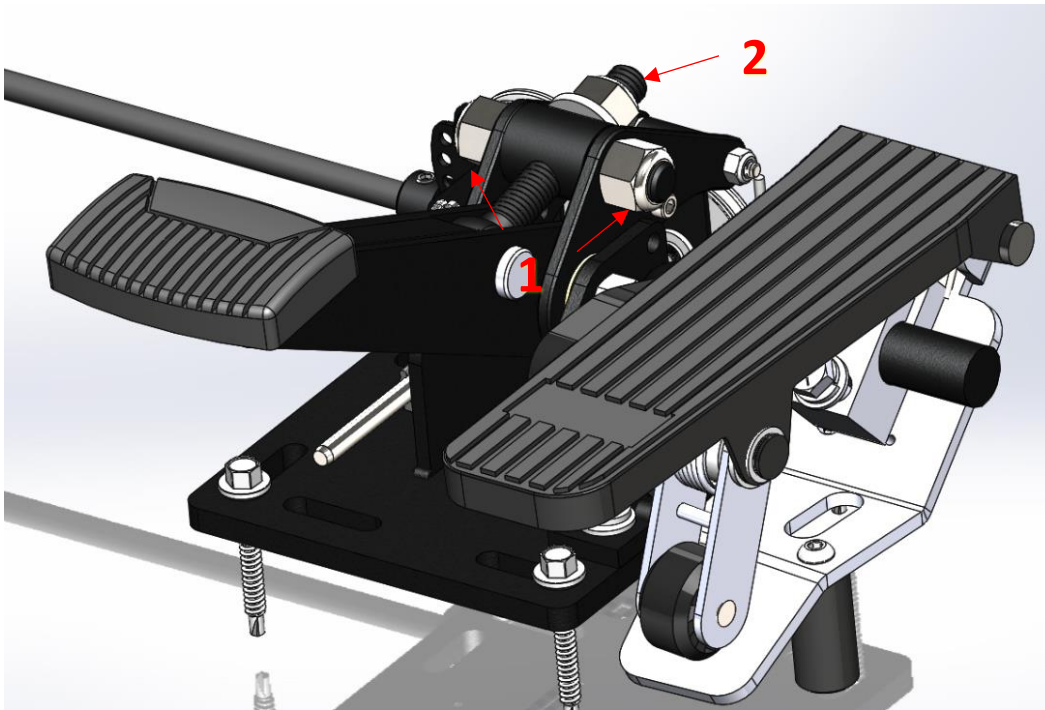

Figure 7: Brake pedal adjustment
Loosen nylock nuts on the sides of the pedal arm using a 3/4 wrench or socket (1). Using a deep socket or wrench adjust the height by loosening or tightening the adjustment nut (2). Tighten the nylock nuts on the side of the pedal arm once the desired height is achieved. See Figure 7